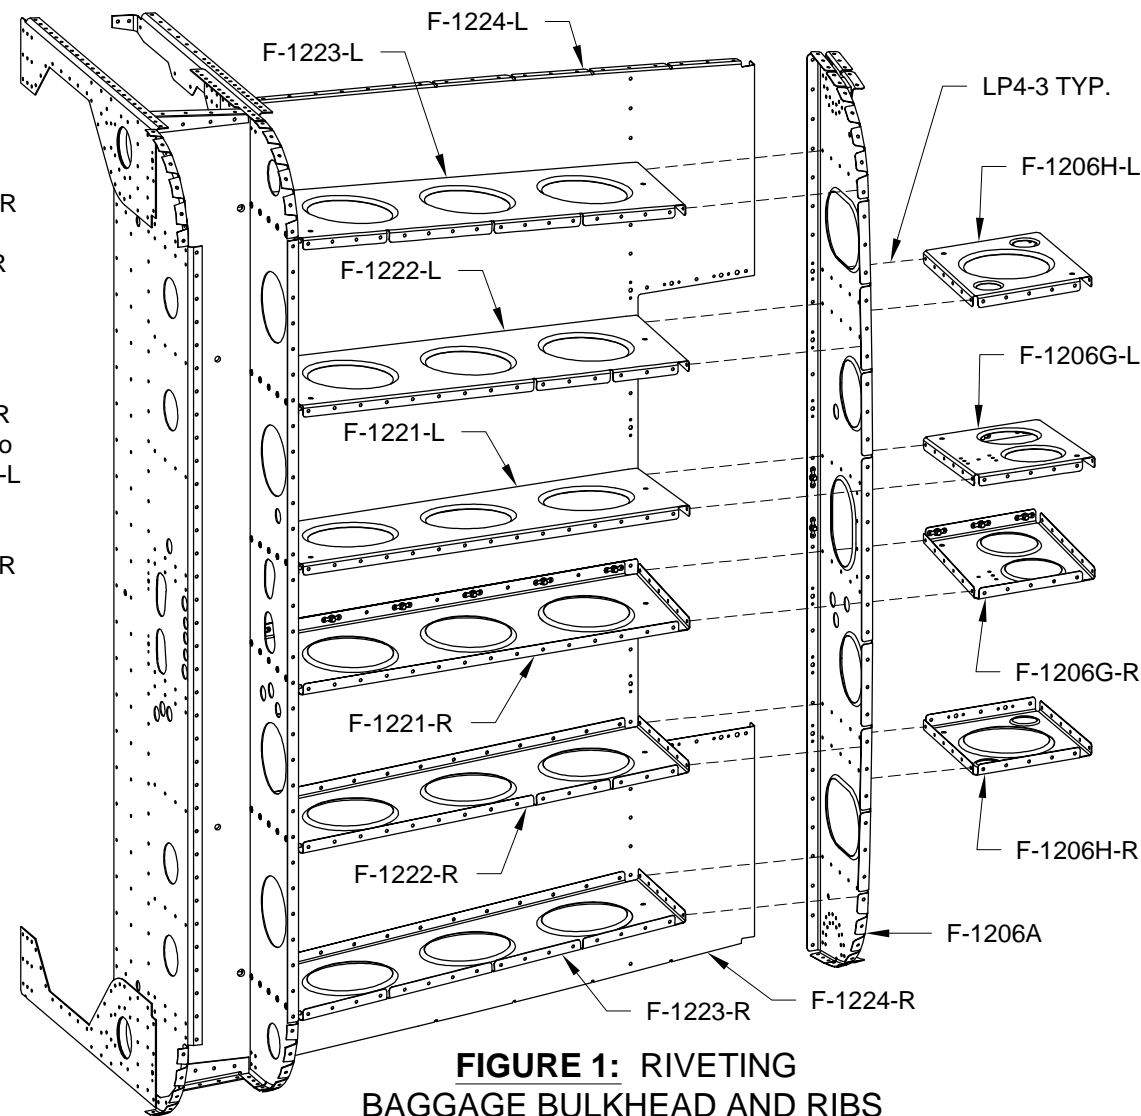

FIGURE 1: RIVETING BAGGAGE BULKHEAD AND RIBS
Step 1: Rivet the F-1206A Bulkhead to the F-1222-L & -R and F-1223-L & -R Baggage Ribs using the rivets called out in Figure 1.
Step 2: Rivet the F-1206G-L & -R Baggage Ribs to the F-1206A Bulkhead and the F-1221-L & -R Baggage Ribs using the rivets called out in Figure 1.
Step 4: Rivet the F-1206H-L & -R Baggage Ribs to the F-1206A Bulkhead using the rivets called out in Figure 1.